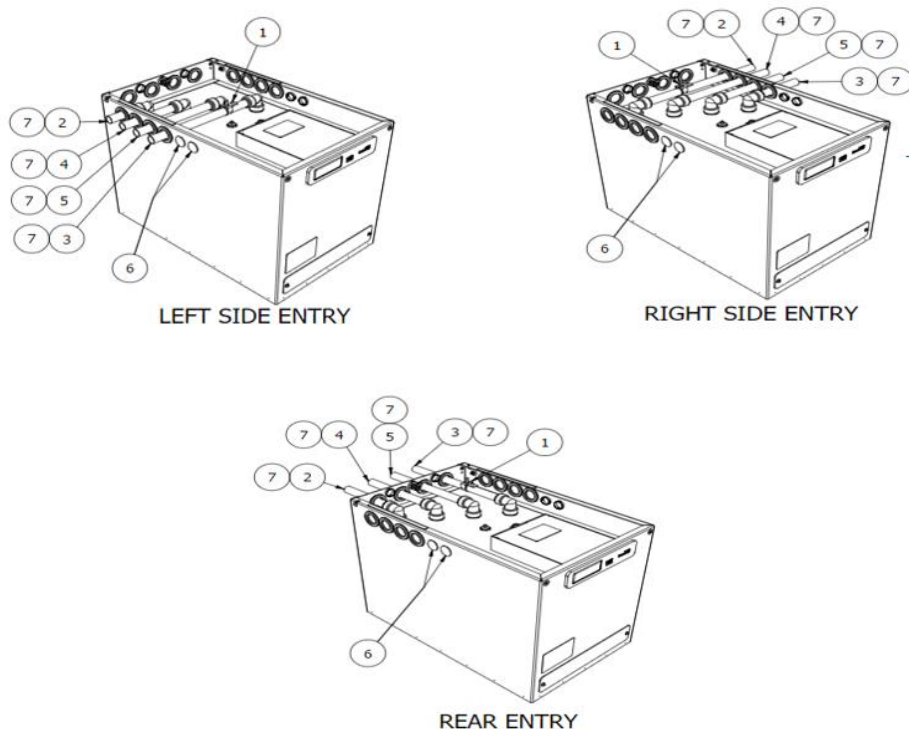

Figure 3: Heat Battery views showing the three tube exits
- Identify which side you wish to make hydraulic and electrical cable entries (see Figure 3 in Section 2.3).
- Fit the earth clamp to the Ø22mm copper tube (See Figure 3 in Section 2.3).